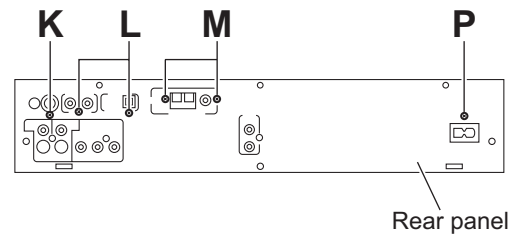

Fig.10
- (3) From the back side of the main body, remove the screw K and two screws L attaching the audio & digital input board to the rear panel. (See Fig. 10.)
- (2) From the back side of the main body, remove the two screws M attaching the tuner to the rear panel. (See Fig. 10.)
- (3) Take out the tuner from the main body.
- (3) From the back side of the main body, remove the screw P attaching the power supply board to the rear panel. (See Fig. 10.)
- (4) Take out the power supply board from the main body.